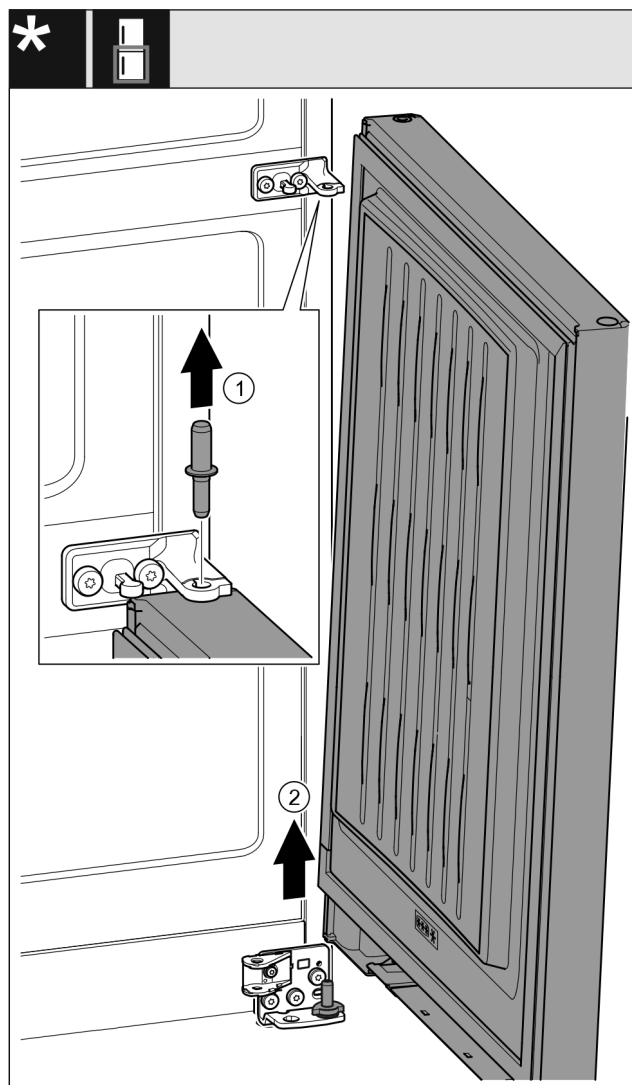

Fig. 21 *
- ▶ Pull out the bolts toward the top. Fig. 21 (1)*
- ▶ Swing the door out, pull it upward and set it aside. Fig. 21 (2)*